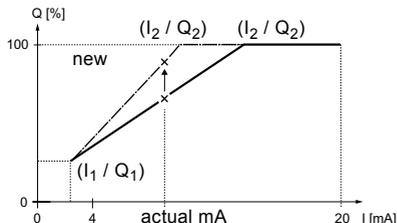

Fig. 21 Set analog scaling ('Operation' menu)
**Caution** Please observe that changes also have a direct effect on point  $I_2 / Q_2$  (see fig. 21)!